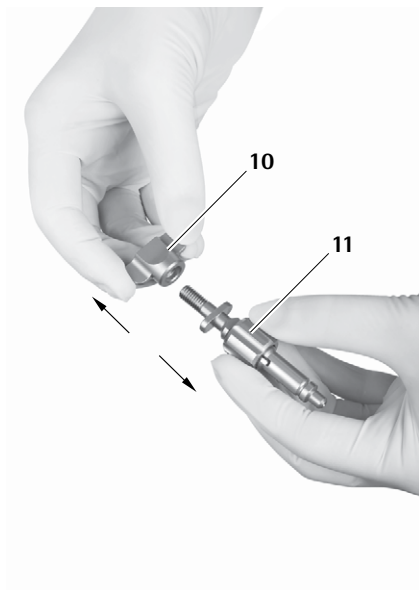

Fig. 17
- Unscrew the wing nut **10** of the holding arm adapter **11**, see Fig. 17.